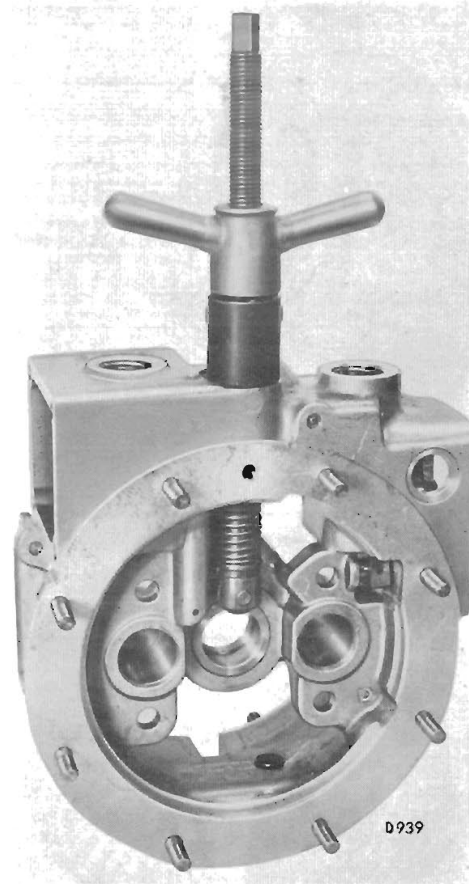

Fig. 14.
**IMPORTANT:** Remove the pump locating screw (33) before extracting the pump body.
Remove the pump plug (42), non-return valve spring (40) and ball (39), and the pump locating screw (33), see note above. Unscrew the non-return valve body (38) using tool L.213. Using tools L.183A, L.183A2 and adaptor L.205, extract the pump body as follows (Fig. 14): —